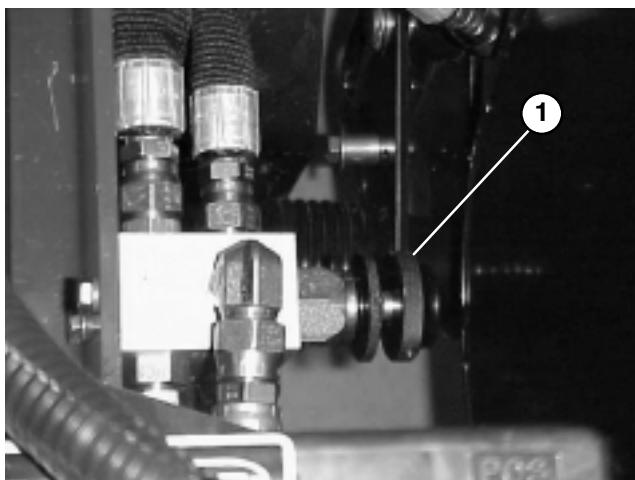

Figure 61
1. Raise hood and locate valve in center of machine behind engine (Fig. 61).